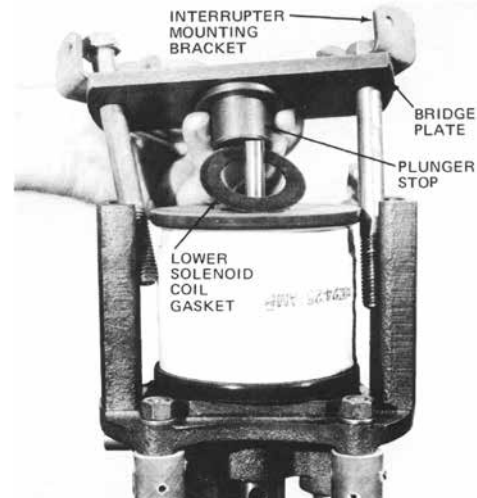

Figure 2. Removal of interrupter mounting brackets, bridge plate, plunger stop, and lower solenoid coil gasket.
8. Remove the interrupter assembly by removing the four round-head screws that secure the assembly to the U-shaped mounting brackets (Figure 2).
10. Remove the two long hex-head bolts holding the bridge plate to the solenoid frame and remove the interrupter mounting brackets, bridge plate, and plunger stop (Figure 2).